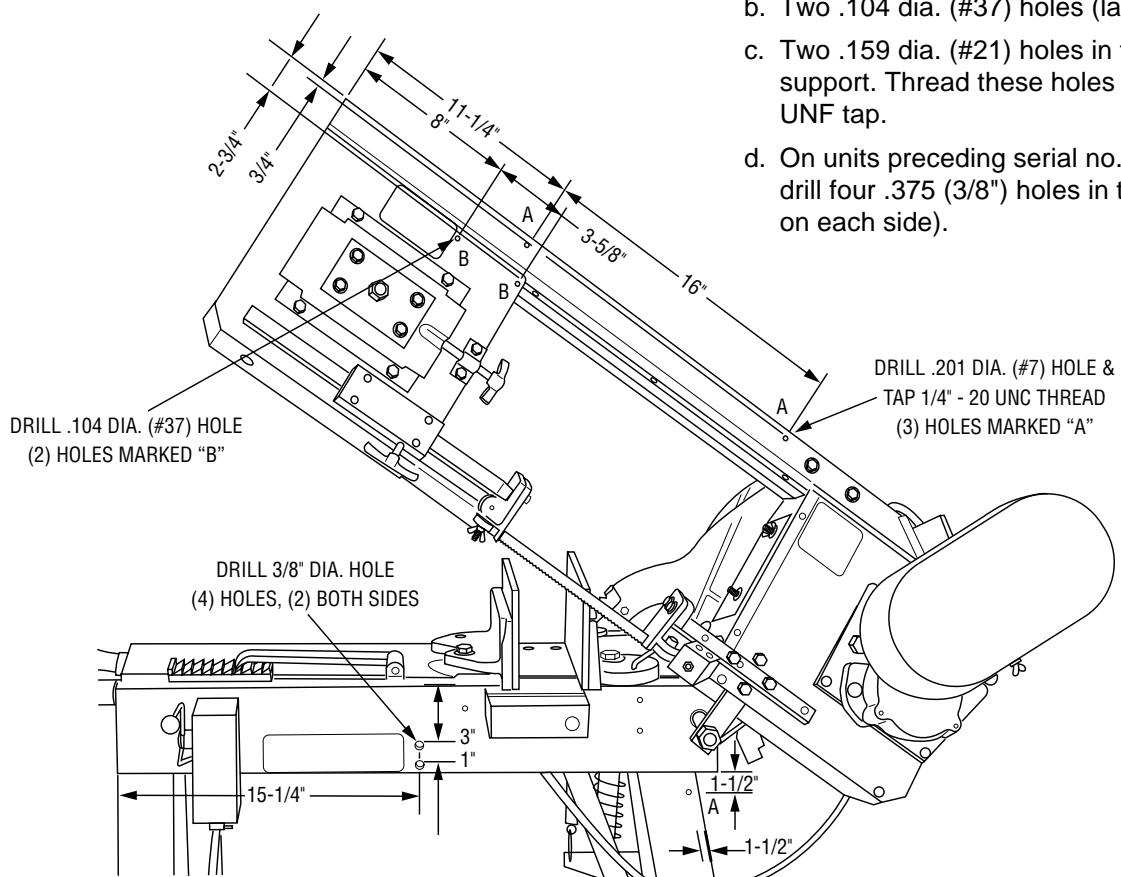

Figure 2
2. See Figures 2 & 3. Locate and drill: